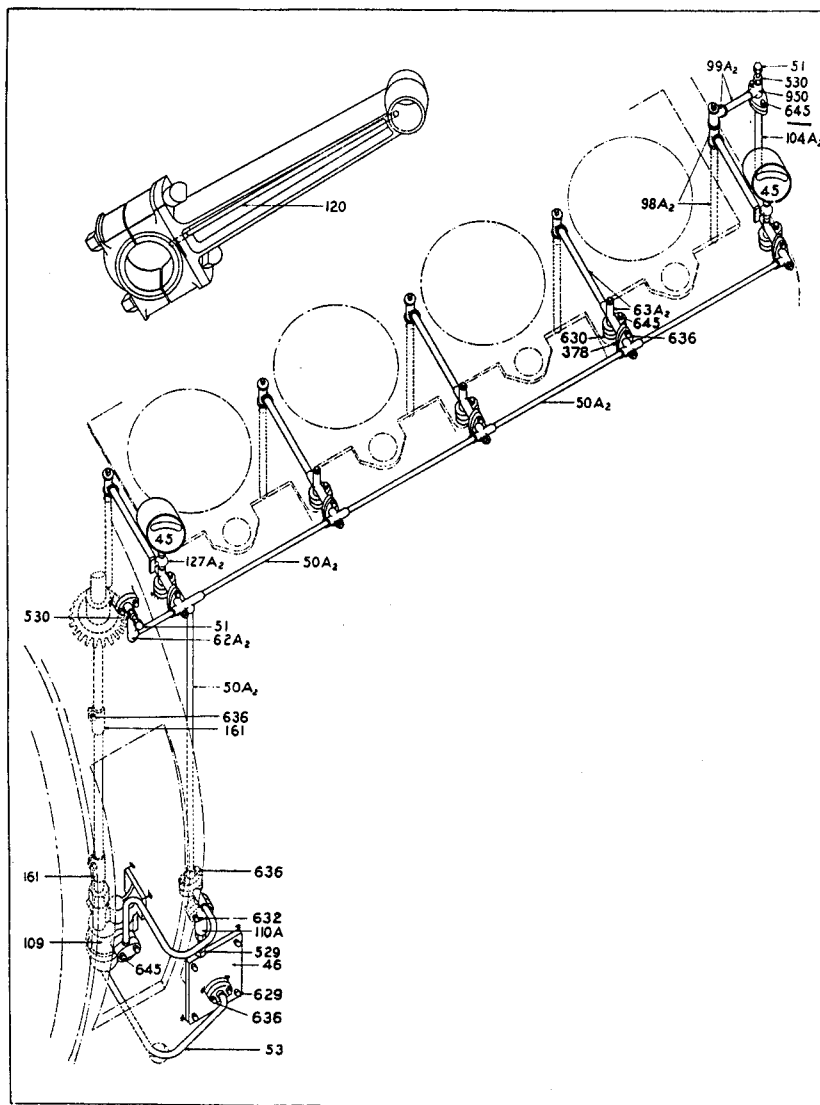

Fig. 54.
50. Oiling system. (See Figs. 54 and 55, p. 118.)